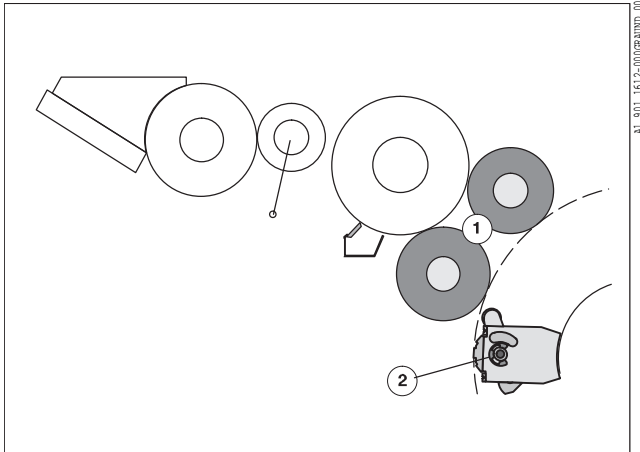

Fig. 32 Separating the inking form rollers and numbering boxes
2. **Separate inking form roller and numbering boxes:** turn the numbering shaft so that the two inking form rollers (Fig. 32/1) no longer make contact with the numbering boxes (Fig. 32/2).